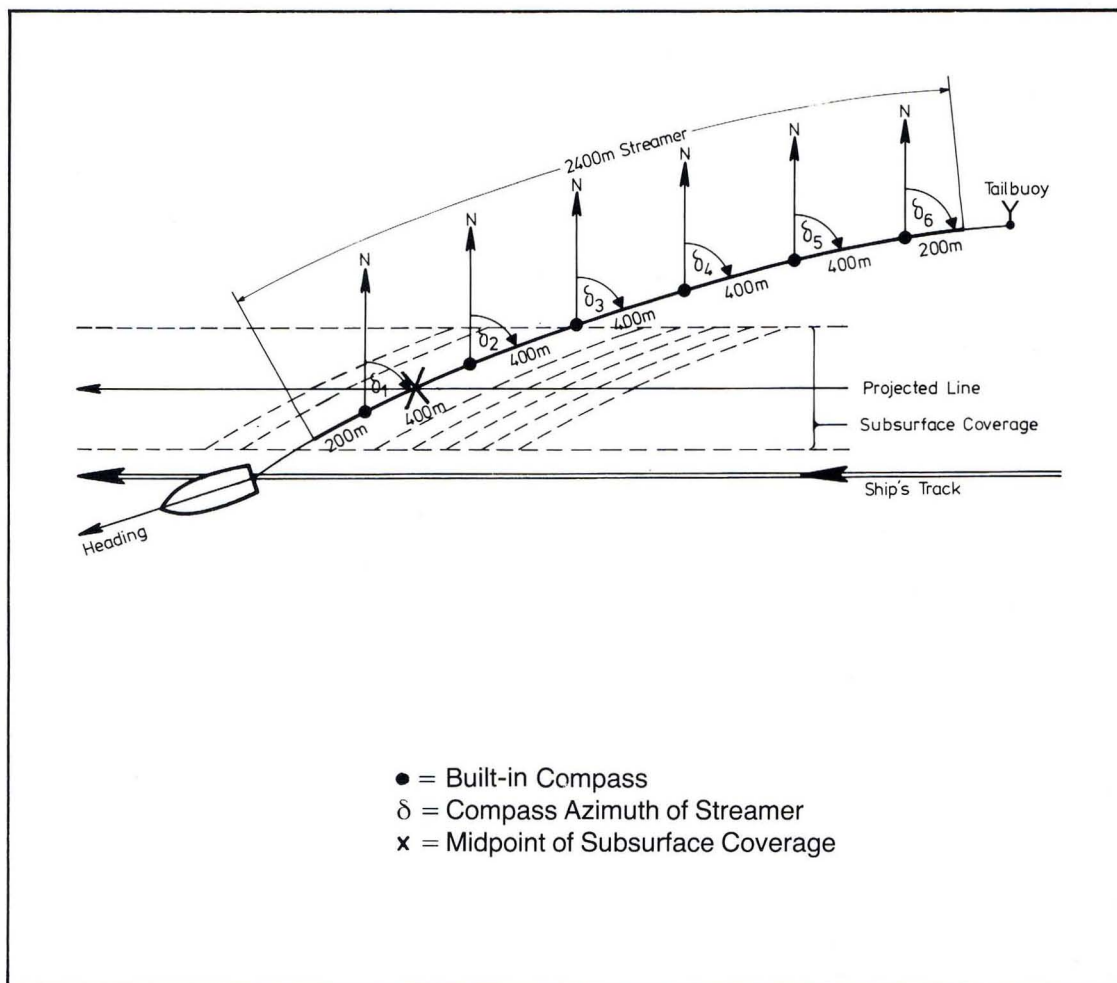

Fig. 4.1: Streamer Location Map
- Streamer location map (fig. 4.1)